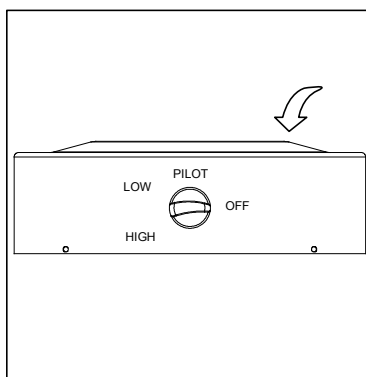

Figure 1
1. Depress and turn control knob clockwise to OFF position.(Figure 1).